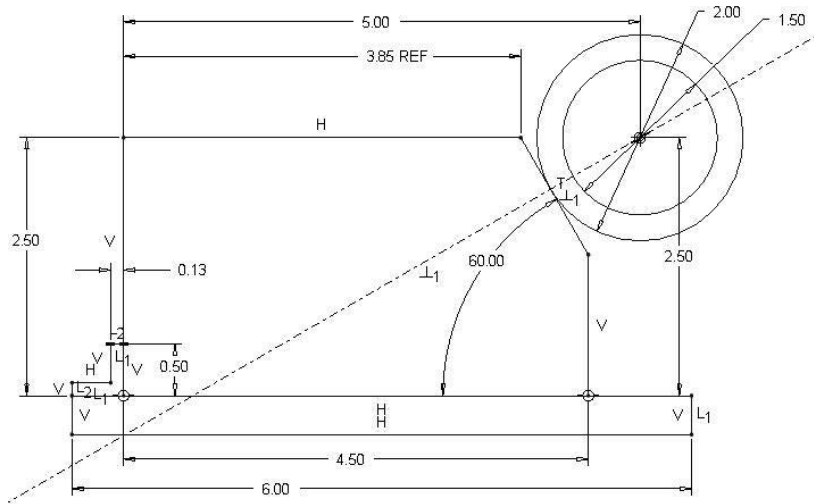

Figure 3-65 Line of Action for Pipe Force
Step 30:  Select the **centerline** tool. Using the LMB *pick* the center of the pipe, then the point where the line touches the jig's slanted surface. The normal force produced by the pipe pushing on the slanted surface will lie along this line. If this line crosses the left edge of the jig above the fixed tab, then the jig will not stay in place by itself. In this case, this line crosses the left edge below the fixed tab, thus this jig will stay in place when released. See Figure 3-65.